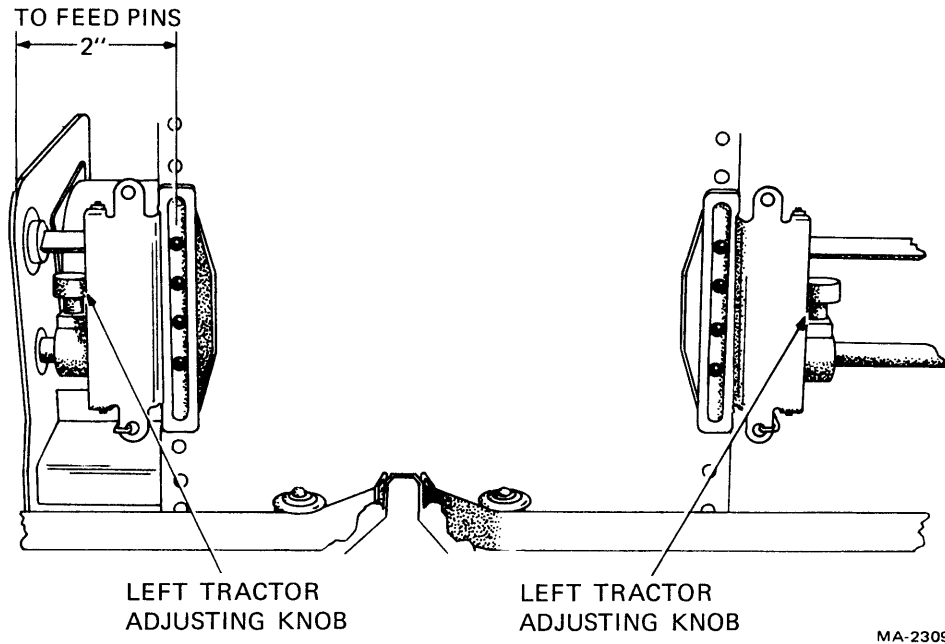

Figure 1-6 Tractor Adjust Knobs
1.2.10 Tractor Adjust Knobs (Figure 1-6)